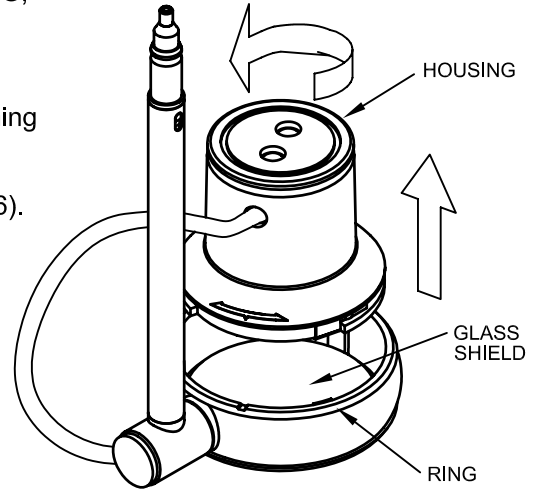

FIG. 4
2. Remove HOUSING by turning it counter-clockwise until it stops, and then pull the HOUSING away from the RING (See Fig. 4).